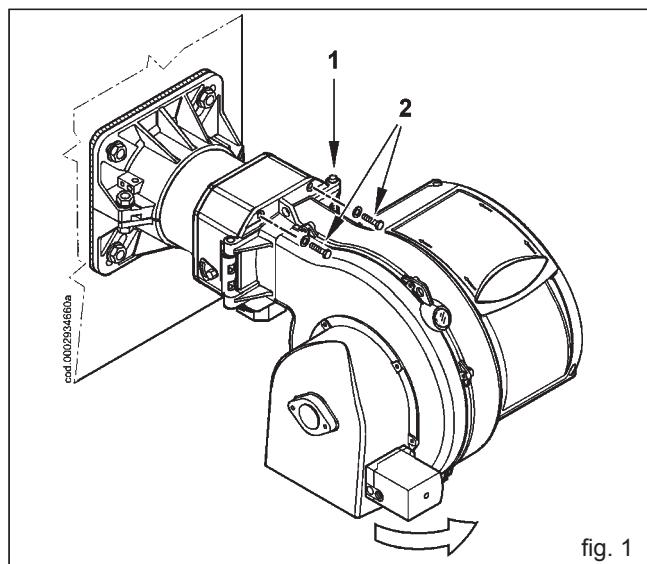

fig. 1
Unscrew the two screws (2) and turn the burner around the pin (1) in the hinge (figure 1).